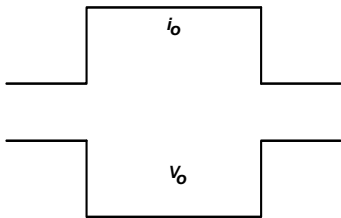
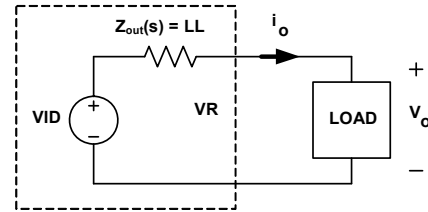

FIGURE 22. DESIRED LOAD TRANSIENT RESPONSE WAVEFORMS
FIGURE 28. VOLTAGE REGULATOR EQUIVALENT CIRCUIT
Assuming the compensator design is correct, Figure 22 shows the expected load transient response waveforms if  $C_n$  is correctly selected. When the load current  $I_{core}$  has a square change, the output voltage  $V_{core}$  also has a square response.
Figure 22 shows the desired load transient response waveforms. Figure 28 shows the equivalent circuit of a voltage regulator (VR) with the droop function. A VR is equivalent to a voltage source (= VID) and output impedance  $Z_{\text{out}}(s)$ . If  $Z_{\text{out}}(s)$  is equal to the load line slope LL, i.e., a constant output impedance, then in the entire frequency range,  $V_o$  will have a square response when  $I_o$  has a square change.